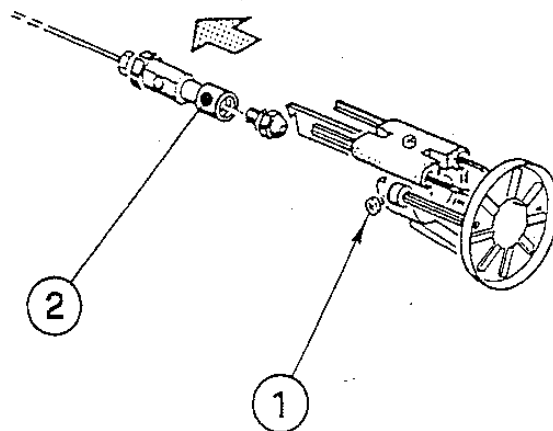

Figure 6: Riello Nozzle Replacement
- b. Nozzle Replacement, refer to Figure 6.
- i. Remove the NOZZLE ADAPTER (2) from the DRAWER ASSEMBLY by loosening the SCREW (1).
- iv. Replace adapter, with nozzle installed, into drawer assembly and secure with screw (1).